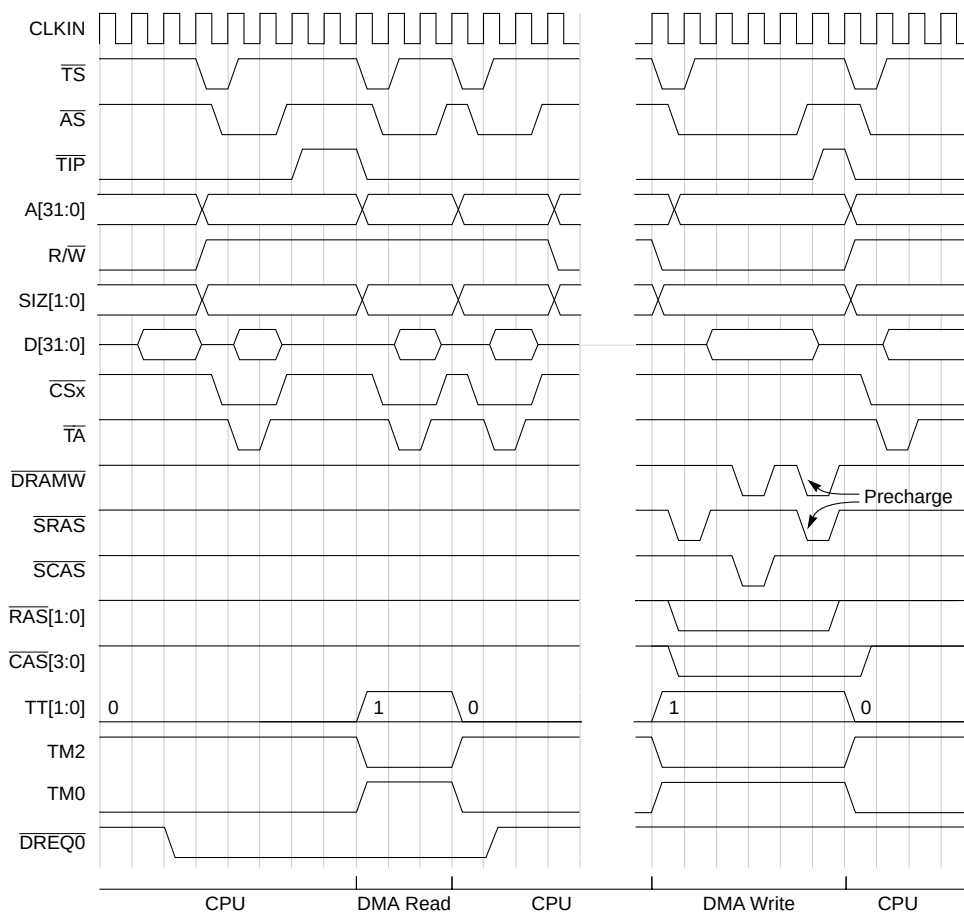

**Figure 12-12. Dual-Address, Peripheral-to-SDRAM, Lower-Priority DMA Transfer**
Figure 12-12 shows a dual-address, peripheral-to-SDRAM DMA transfer. The DMA is not parked on the bus, so the diagram shows how the CPU can generate multiple bus cycles during DMA transfers. It also shows TM0 timing. The TT signals indicate whether the CPU (0) or DMA (1) has bus mastership. TM2 indicates dual-address mode.